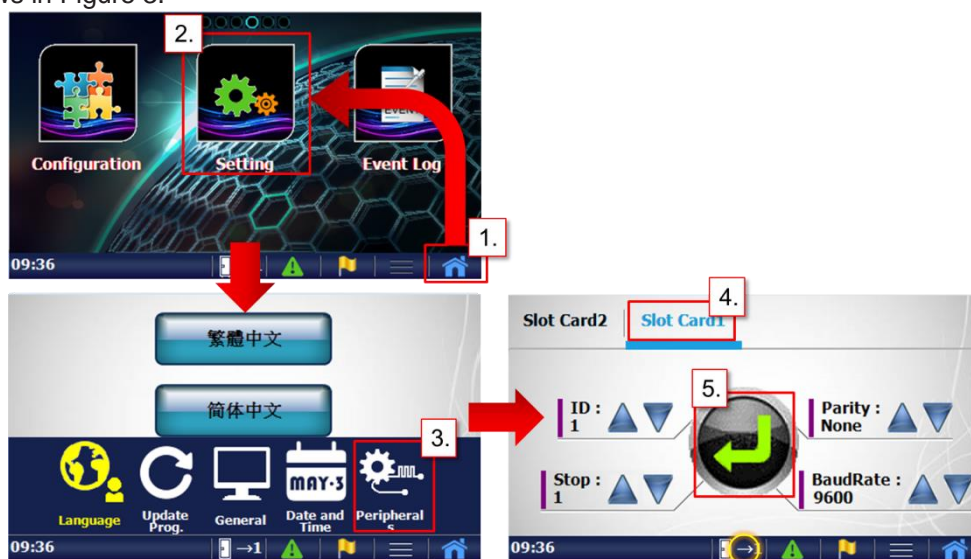

Figure 3
- Please, configure the setting of this card via the LCD control panel and the setup procedure as shows in Figure 3.